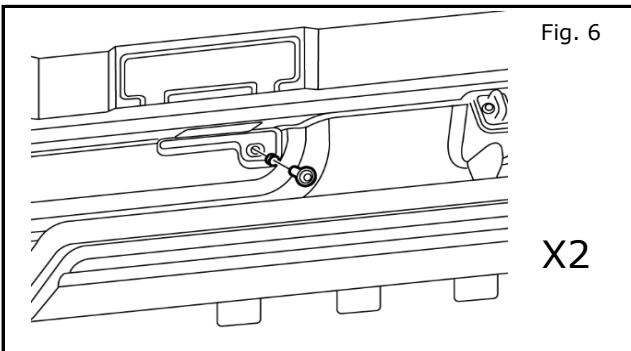

Fig. 6
- 6) Open bin assembly lid and install M8 spacer and M8X33 bolt. Install in (2) locations (Figure 6). Tighten screws to 10Nm.